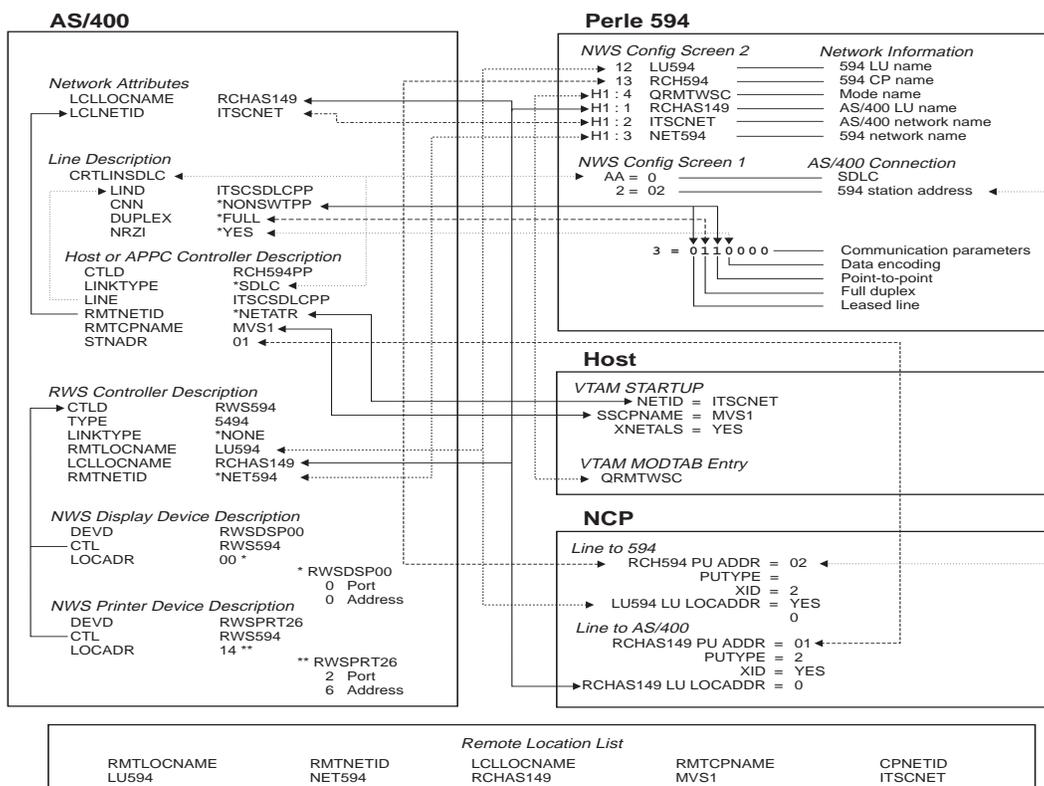

Fig. 14: SNA SubArea Network configuration cross-reference
- Fig. 14: SNA SubArea Network configuration cross-reference 8